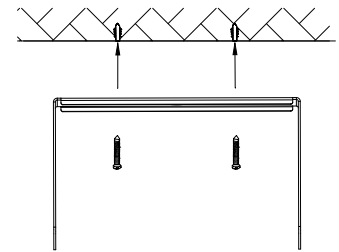

Figure 9
2. Attach the U-shaped yoke mount bracket to the mounting surface utilizing appropriate hardware based upon the material of the ceiling (Figure 9)